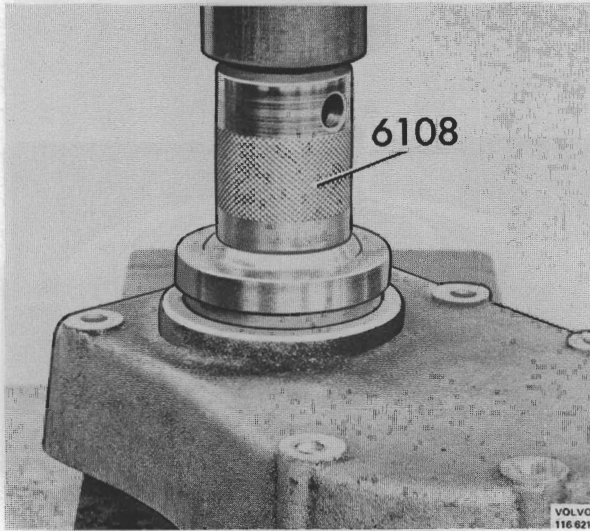

Fig. 48-20. Pressing in the seal
2. Place the sealing in the housing with 6108, see Fig. 48-20.